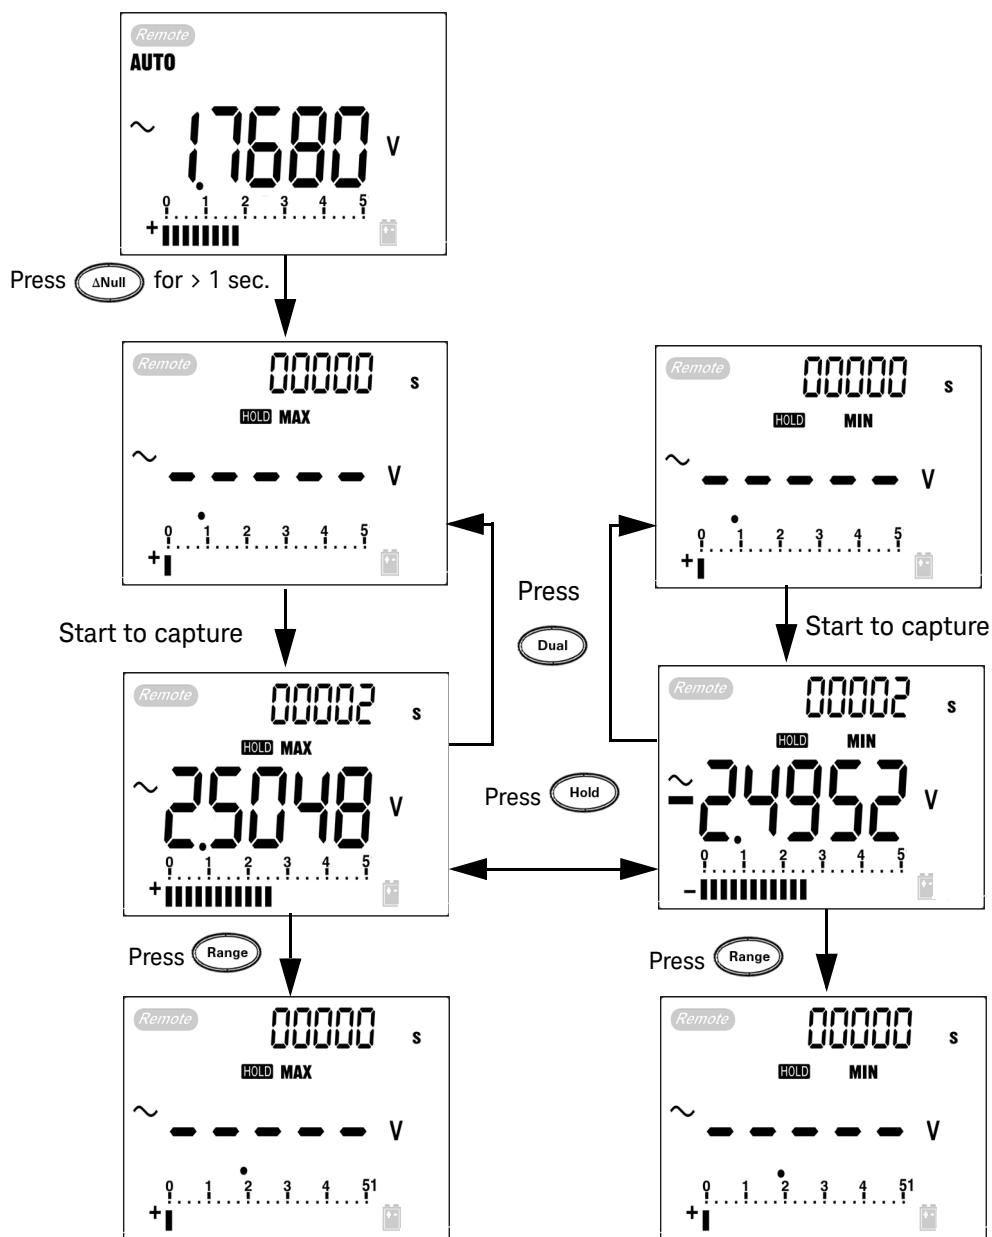

Figure 3-6 1 ms peak hold mode operation
- 4 According to the measurements shown in Figure 3-6 on page 86, the crest Factor will be $2.5048/1.768 = 1.416$.